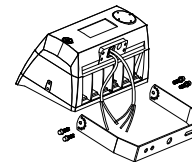

Figure 5
STEP 1: First install two big screws (FIGURE 5)